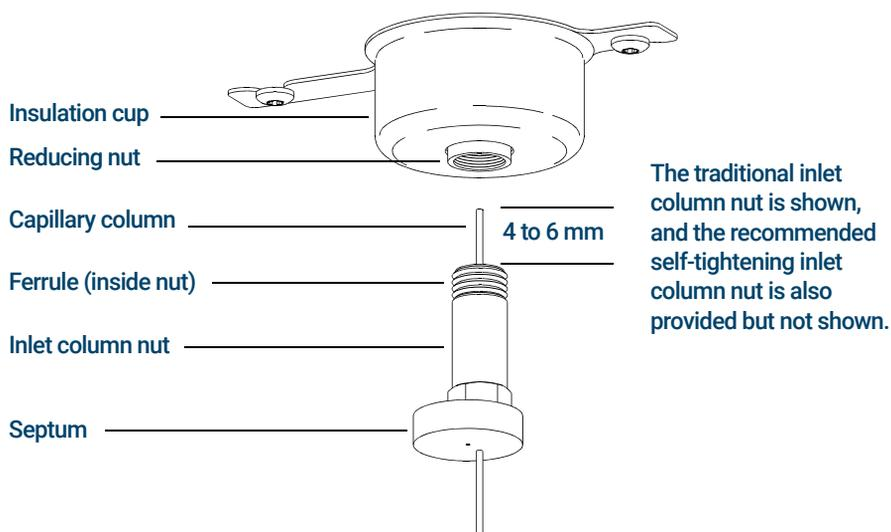

Figure 3. Installing a capillary column for a split/splitless inlet
- Position the septum under the column nut so that the column extends 4 to 6 mm past the end of the ferrule. (See **Figure 3** on page 38.)
For the standard column nut, (shown in **Figure 3**) tighten the nut an additional 1/4 to 1/2 turn. The column should not slide with a gentle tug.